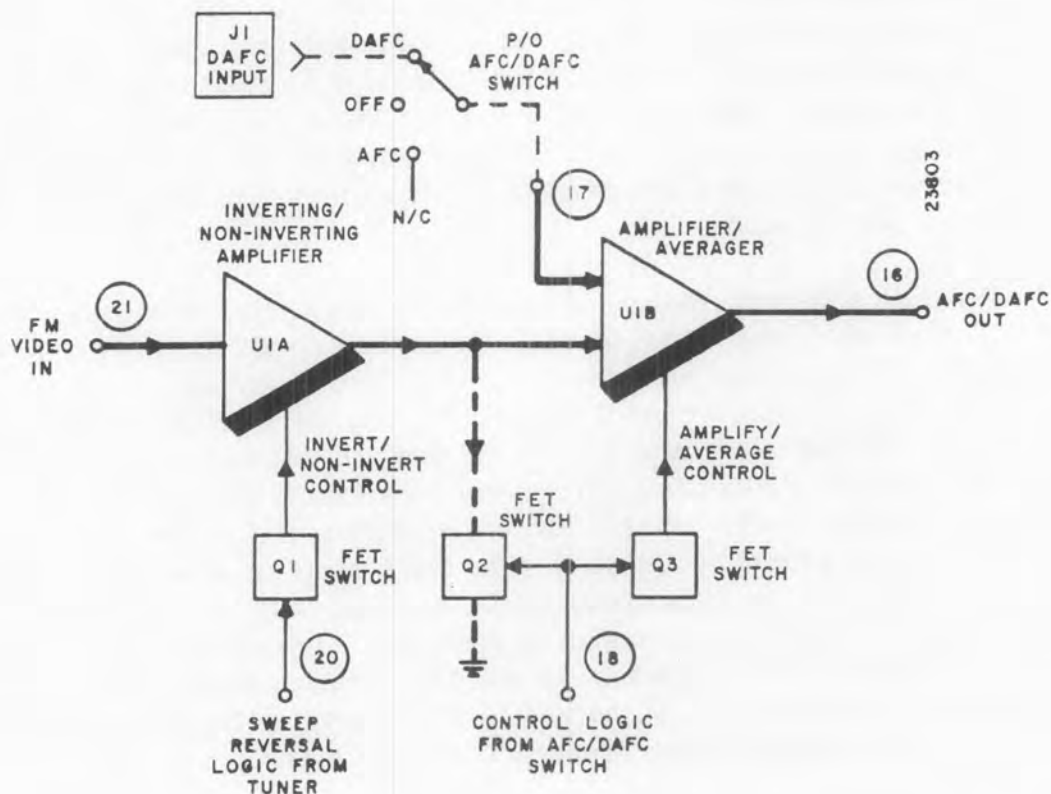

Figure 3-9. AFC/DAFC Amplifier, Part of A6A1, Functional Block Diagram
3.9.9 TYPE 7383 VIDEO/AFC-DAFC AMPLIFIER SUBASSEMBLY (A6A1). - This subassembly contains an afc-dafc amplifier and a video output amplifier. Refer to block diagram Figure 3-9 for the afc-dafc amplifier circuits representation. The afc-dafc amplifier selects between the afc and dafc voltages for controlling the